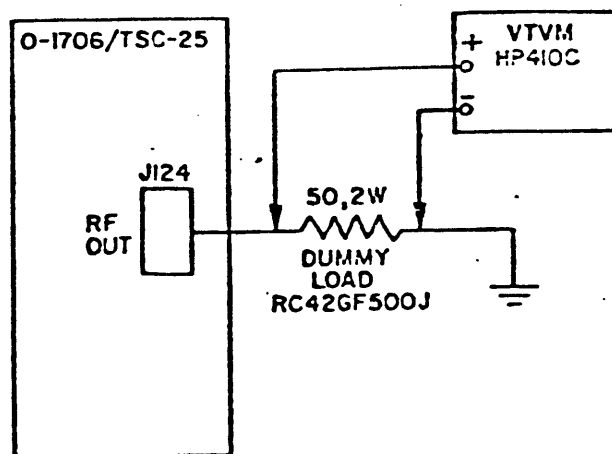

Figure 5-11 RF output board Z115 test setup
- (a) Remove top cover from chassis and perform power supply alignment as outlined in paragraph 5-5 a. (1), steps (c) through (v).
- (h) Connect a 50-ohm load to RF OUT connector J124 on rear panel as shown in figure 5-11. Connect VTVM across load.
(b) Connect a 50-ohm, 2-watt resistive load (RC42GF500J) to RF OUT jack on rear panel; connect VTVM across 50-ohm load. (See figure 5-11.)